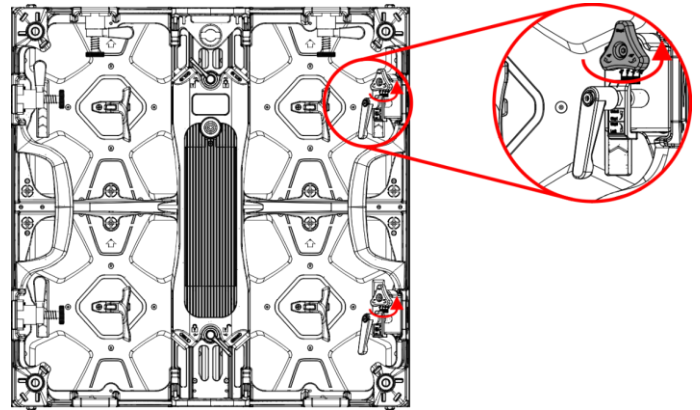
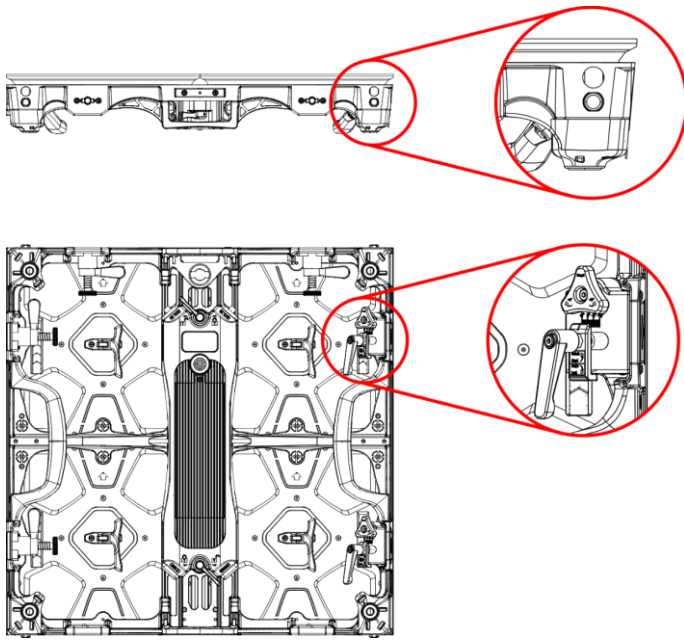

Fig. 52
Fig. 55
- 02) Turn the top **triangular screw (07)** counterclockwise to set the angle, as shown in Fig. 52–53. There are 4 options available:  $-5^\circ$ ,  $0^\circ$ ,  $5^\circ$ ,  $10^\circ$ , as shown in Fig. 55–58.